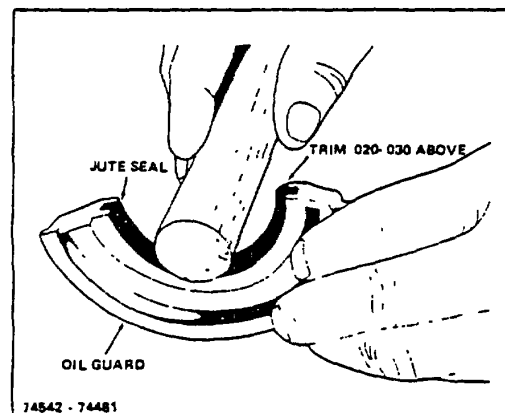

Figure 14-1. Installing Jute Seal in Oil Guard
2. Install jute seals on the oil guard and the rear filler block. Refer to Figures 14-1 and 14-2.